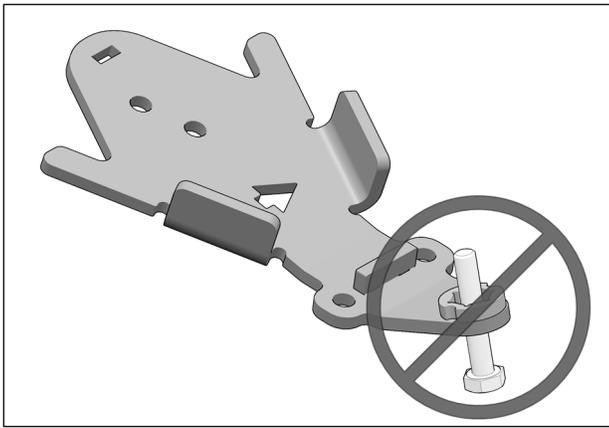

Fig. 10
**CAUTION: Be sure that bolt is inserted in the right direction. See Fig. 10**